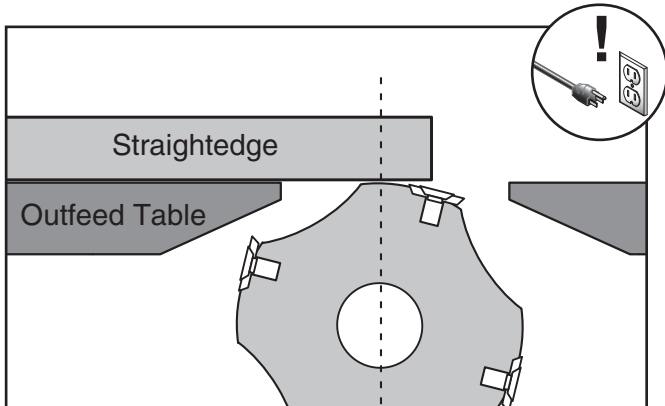

Figure 42. Example of straightedge just touching cutterhead body.
2. Loosen (2) button head cap screws securing cutterhead guard to jointer base, then remove cutterhead guard.
- Place straightedge on outfeed table so it hangs over cutterhead, then rotate cutterhead until straightedge just touches cutterhead body (see **Figure 42**).